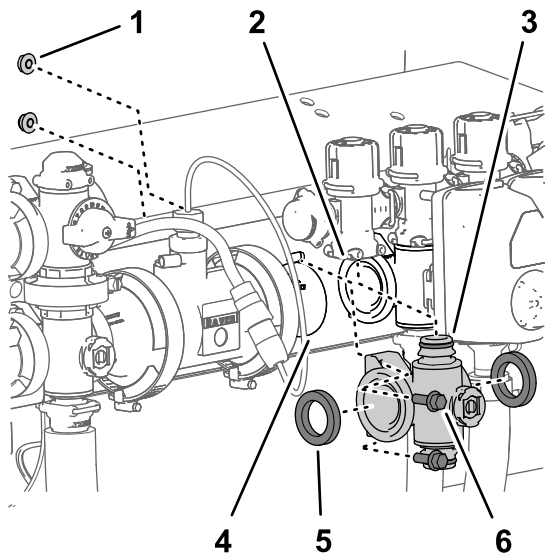

Figure 118
4. For left or right section-valve manifolds, remove the 2 flange-head bolts (1/4 x 3/4 inch) and 2 flange locknuts (1/4 inch) that secure the section-valve manifold to the valve support (Figure 118).
5. Move the section-valve manifold and gaskets down to clear the section-bypass valve and then away from the machine (Figure 118).